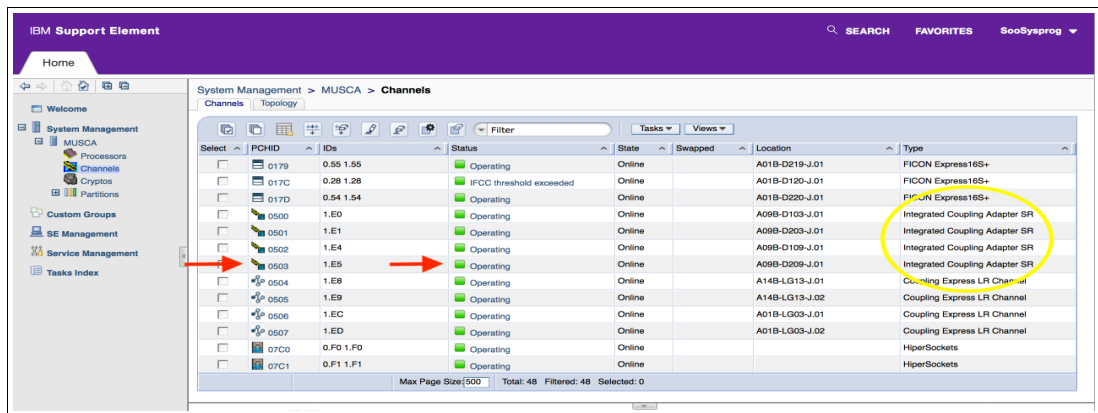

Figure 9-9 Verifying channel CS5 using CEC view
- c. Look for the PCHID for which you are interested in checking the status. The result resembles the result that is shown in Figure 9-9.